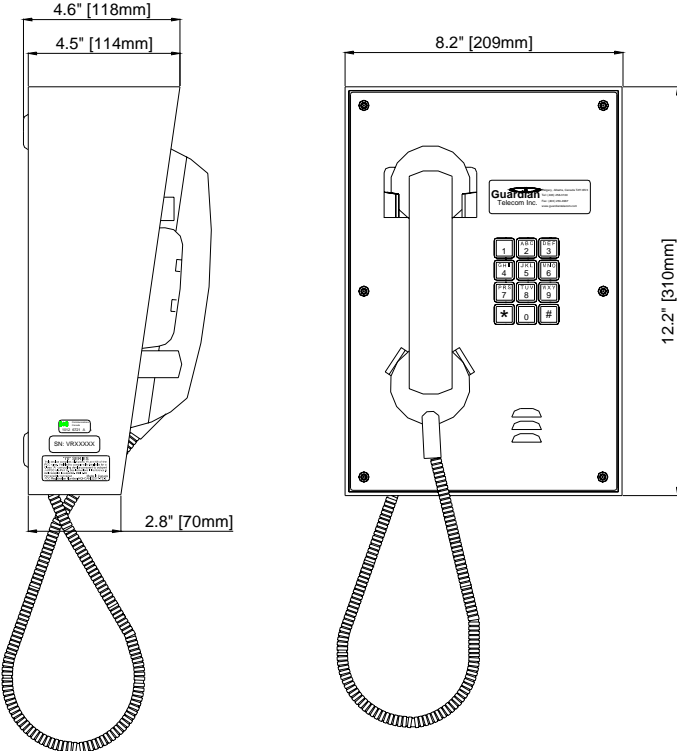

Figure 2 - Dimensions
**See:** Figure 2 - Dimensions